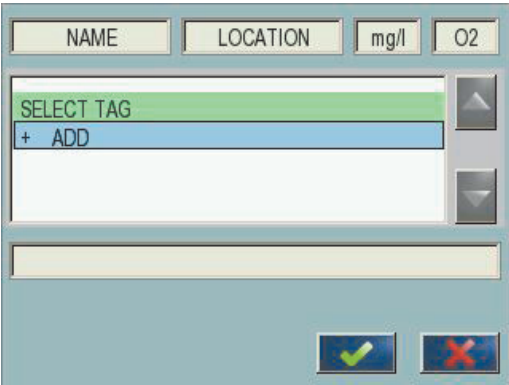

Figure 49 Main menu of the formula editor
- 2. The main menu of the formula editor is displayed (Figure 49). Tap on the text fields to edit the Name, Location, Unit, Parameter and Formula.